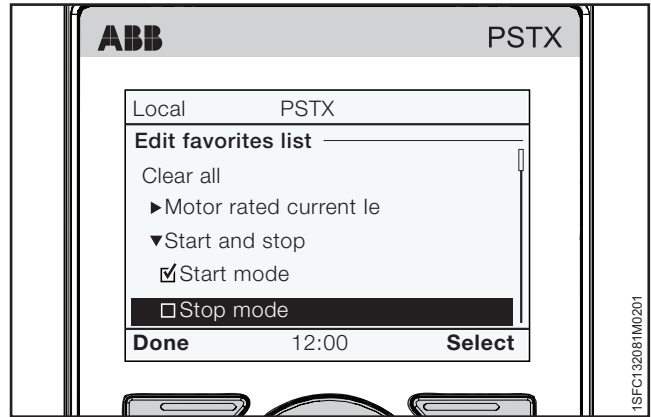

Figure 6.24
3. Push "Select" to select parameters. A check mark shows in front of the selected parameter. Push "Unselect" to unselect the parameter. Push "Done" to save and exit. See Figure 6.24.